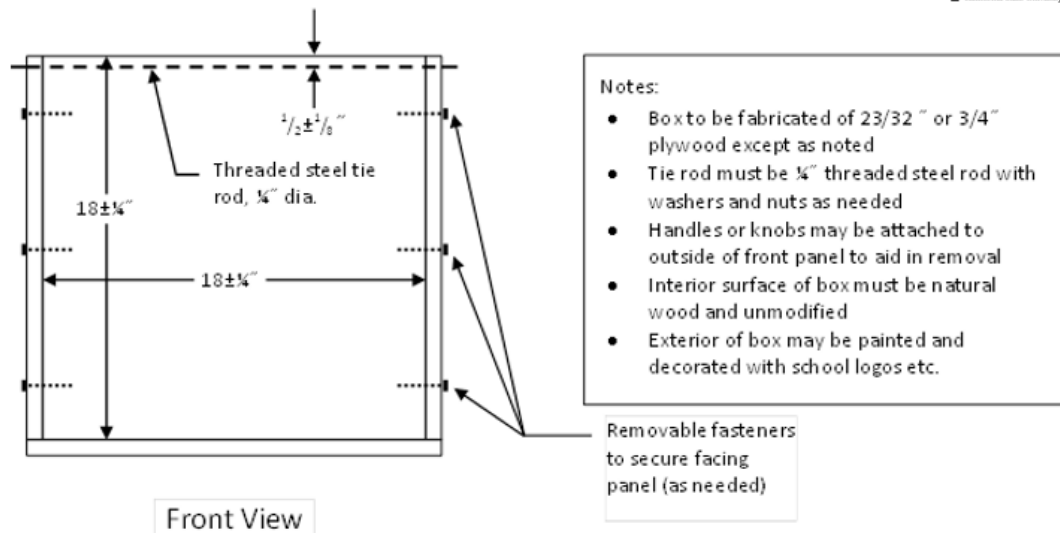

Figure 2: Sandbox dimensions (not to scale)
7. Sandbox – The MSE wall will be constructed within an apparatus hereafter referred to as a sandbox. Each team shall bring their own sandbox to the competition. Painting and addition of school or sponsor logos and other decorations to the exterior of the sandbox is highly encouraged. The sandbox shall be made up of a bottom and four vertical sides with no top. The front panel will be removable as shown in Figure 2. The removable box panel will be in place during wall construction and removed after construction to expose the MSE wall. The sandbox will meet the following requirements:
- c) Have a removable front as shown in Figure 2. Panels must be flush with the base of the box and held in place with threaded inserts, screws, hinges or other easily removable fasteners.
- g) All dimensions of the sandbox shall be as shown in Figure 2.
a) **Reinforcement Fabrication Stage** – Each team will be provided with 60 lb. Kraft paper (as mentioned in the design report). The team must fabricate all their reinforcing elements from those sheets using authorized construction tools. Twenty (20) minutes will be allotted for this stage. Teams will be penalized for time exceeding the time limit. After all reinforcing elements are fabricated, excess material will be disposed of and the judges will weigh the reinforcing elements to the nearest 0.01 grams.
b) **Construction Stage** – After each team's reinforcing elements have been fabricated and weighed, the judges will instruct the team to start construction. During this stage the team constructs the wrapped MSE wall filling the box with sand so that the backfill line (see Figure 2) is covered and the backfill is level, and places the empty 5 gallon vertical surcharge bucket on top of the sand. The facing material must be in direct contact with the inside of the sandbox at all times during this stage. The tie rod may be removed from the box at the start of this stage, but it must be in place before any sand is placed in the box. Temporary templates or guides may be used during this stage so long as they are removed before the end of the stage.